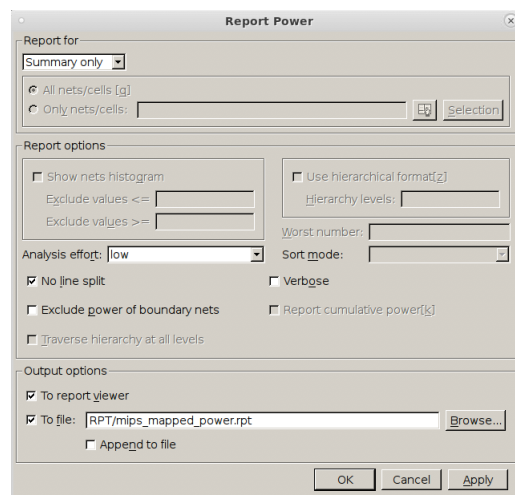

Figure 14: Reporting the power
2. Select the parameters as in Fig. 14.